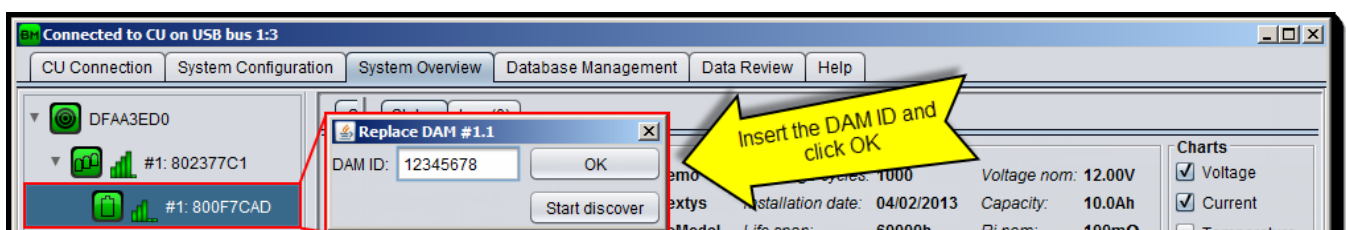

Figure 51: Battery installation date
2. On the opened dialog insert the ID of the new IDAM either automatically (activating the discover option) or manually and click "OK" (see Figure 51) to confirm.
2. On the opened dialog insert the installation date (the current date is entered by default) and click "OK" (see Figure 51) to inform the system that a new battery has been installed.